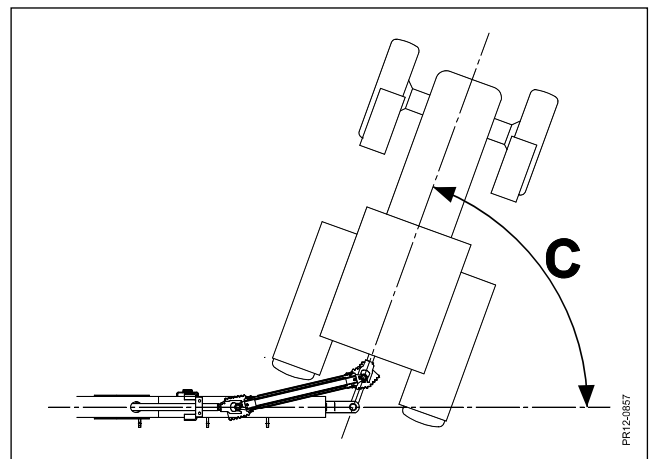

Fig. 2-10
- Fig. 2-10** In certain cases it is possible to increase the turning angle "**C**" by shortening the PTO drive shaft. The PTO drive shaft must only be shortened if the overlapping is more than 200 mm when driving straightforward with the machine in working position.